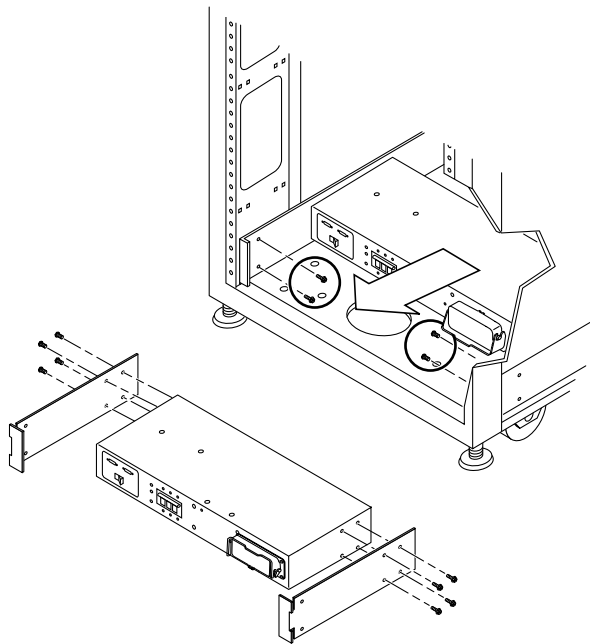

FIGURE 5-4 Power Sequencer
2. **Disconnect the key switch adapter cable from the mating power supply connector at the rear of the power sequencer (FIGURE 5-4).**
- 3. Slide the power sequencer into the expansion cabinet (FIGURE 5-4).**